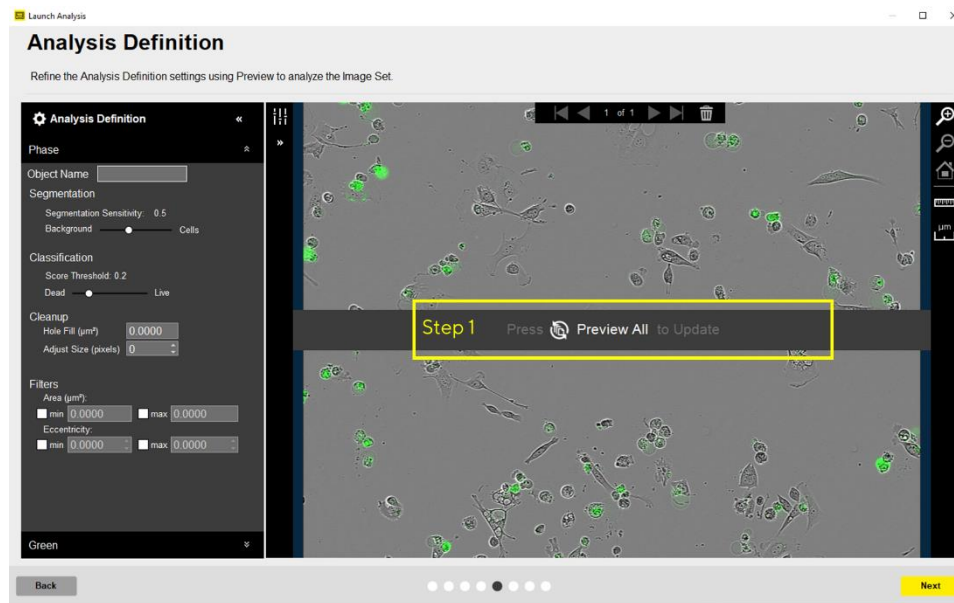

Figure 2. AI Cell Health image preview.
3. Perform Image Set Selection. In this window, select representative images to preview analysis results. Use your mouse to hover over images you would like to select and click the site. We recommend selecting images which represent live, healthy cells as well as dead cells. Click Next to present you with the Analysis Definition window (Figure 2).
5. Preview the Segmentation and Classification using default values by selecting Preview All (Figure 2, Step 1).